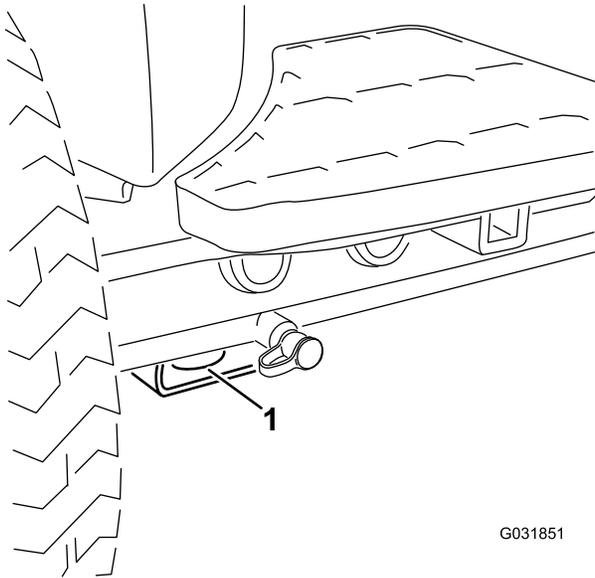

Figure 37
- Front—the hole in the rectangular pad, under the axle tube, inside each front tire (Figure 37).